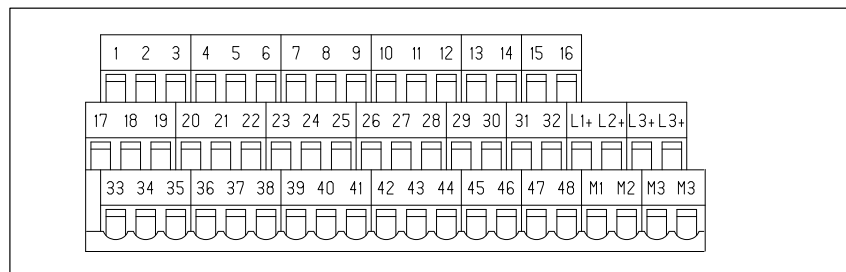

Figure 7-2 Terminal Numbering: Terminal Block TB1/DC (Screw-Type Terminal, 3-Tier)
**Terminal Numbering** Figure 7-2 is an enlargement of the terminal numbering printed on the TB1/DC (screw-type terminal, 3-tier).